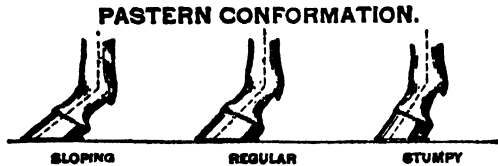

FIG. 85
2. Step to one side and examine the foot to see if it is regular, sloping, or stumpy. Fig. 85.